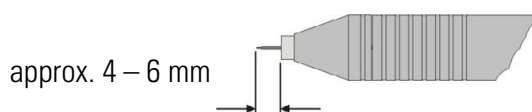

Fig. 5.3 Electrode length adjustment
- If you do not have a Lampert welding microscope, clamp the tungsten electrode in the handpiece so that it protrudes approx. 4 - 6 mm beyond the nozzle. (See Fig. 5.3)